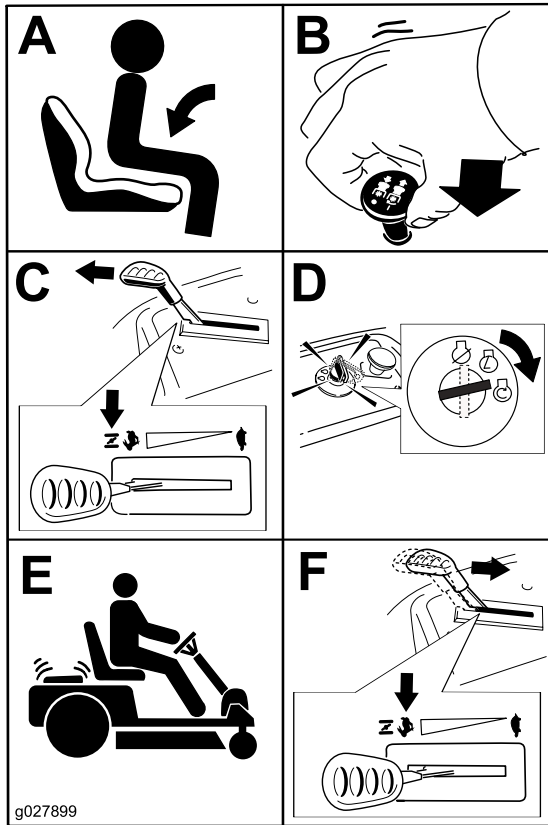

Figure 17
Note: It may be necessary to hold the lever against the stop, in the choke position, while trying to start the engine (Figure 17).
1. Disengage the blades by moving the blade-control switch to the OFF position (Figure 17).